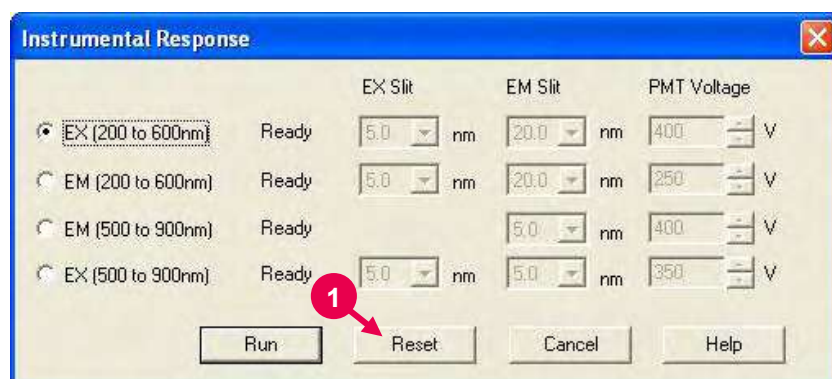

Fig. F-15
- (1) Click the **Reset** button in the Instrumental Response dialog box. (Refer to ① in Fig. F-15.)